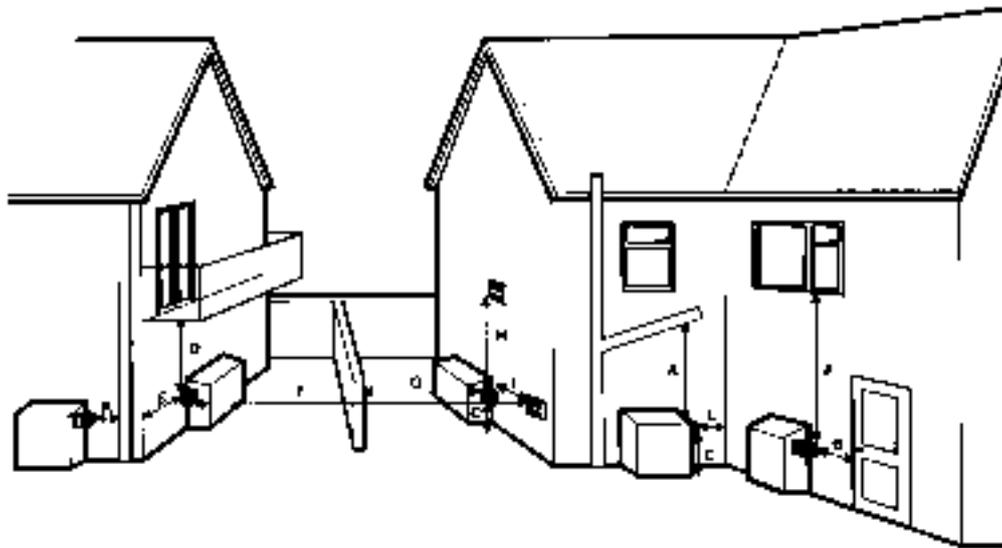

Fig. 7 - Flue terminal positions
- 3 The Module must be positioned such that the required clearances from the low level flue outlet, as shown in Fig. 7, are achieved.